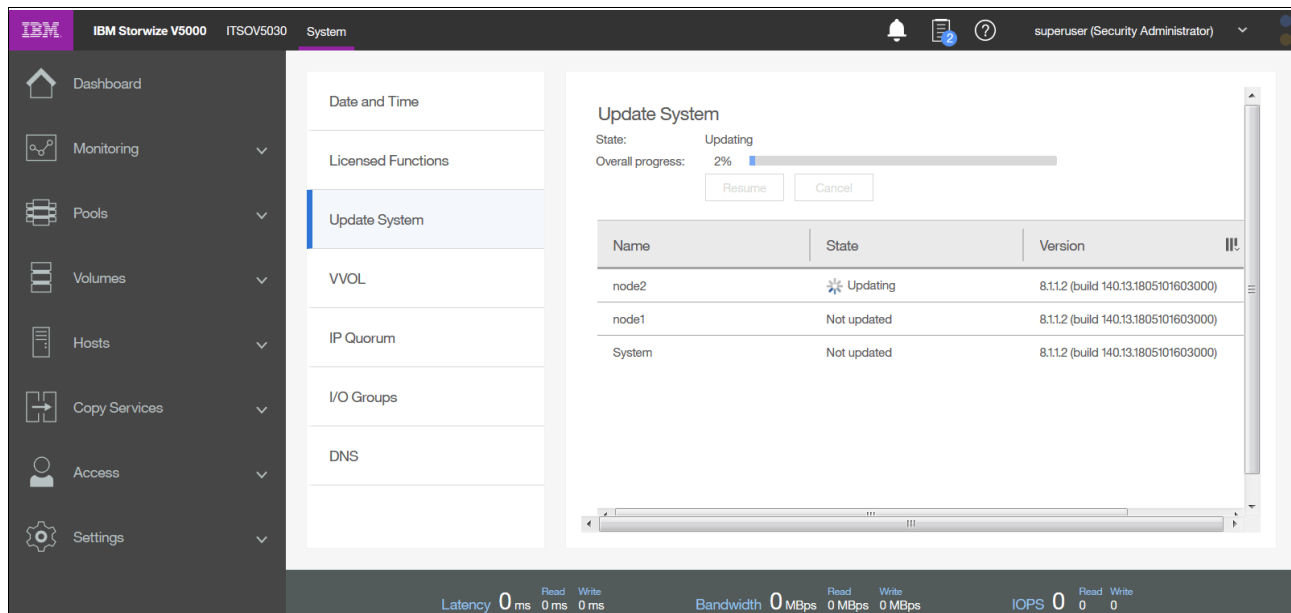

Figure 12-43 Automatic update progress
11. Wait for each node to be updated and rebooted individually until the update process is complete. The GUI displays the overall progress of the update and the current state of each node, as shown in Figure 12-43.